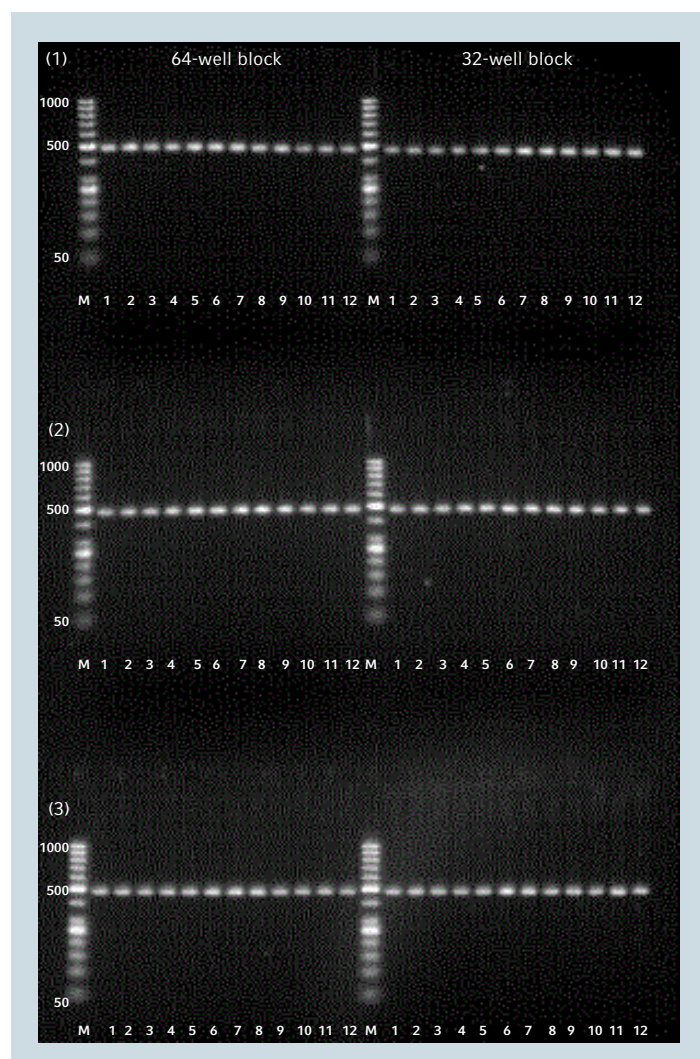

Fig. 4a: Gel image of the PCR products resulting from the triplicate repeat PCR runs on the 64-well block and 32-well block.
Triplicate repeat PCR runs, each with 12 samples, served to verify the reproducibility of the PCR results obtained from one block, as well as the comparability between the PCR products resulting from the 64-well block and the 32-well block, respectively (fig. 4a). Analysis of the PCR product concentration, as quantified on the Agilent 2100 Bioanalyzer using the Agilent DNA 1000 kit, shows that product yields are reproducible on both blocks (fig. 4b). With an overall average PCR product concentration of 26.82 ng/ μ L and a standard deviation of 2.5 ng/ μ L, the 36 samples from the 32-well block show comparable performance across all three runs. The 64-well block shows similar results, i.e. 27.14 ng/ μ L and 2.95 ng/ μ L, respectively. These results further highlight not only consistent quality of results within one block, but also a high degree of consistency between the 32-well block and the 64-well block.
Fig. 4b: Arithmetic means +/- standard deviations of the PCR product concentration of the triplicate repeat PCR runs (light gray bar corresponds to (1) on the gel (fig. 4a), medium gray bar to (2) and dark gray bar to (3)) on the 32-well block and 64-well block. The blue bar displays the overall arithmetic mean +/- standard deviation of the respective block.